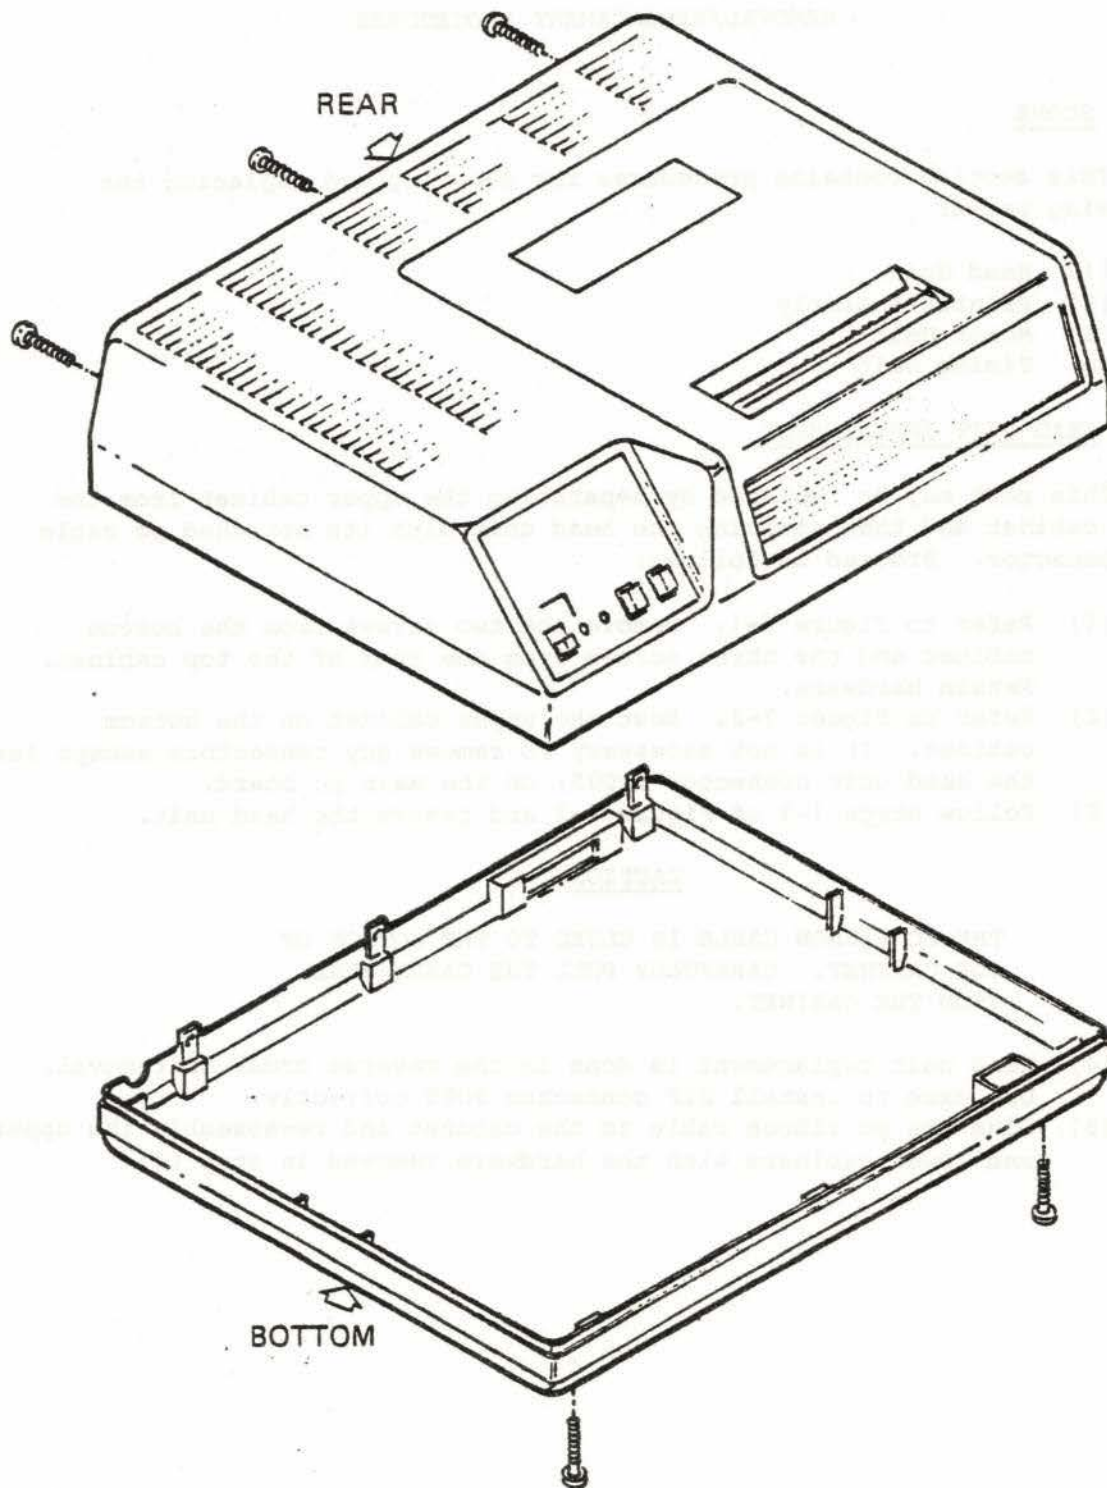

Figure 7-1. UPPER/LOWER CABINET REMOVAL
- (1) Refer to Figure 7-1. Remove the two screws from the bottom cabinet and the three screws from the rear of the top cabinet. Retain hardware.
- (1) Separate the upper and lower cabinets as shown in Figure 7-1.